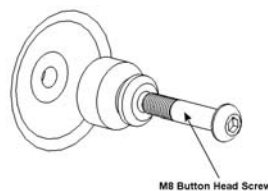
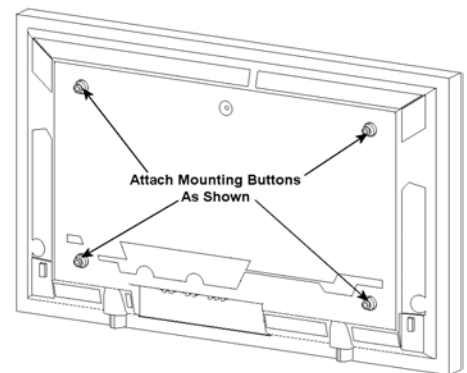

Figure 3
Figure 4
2. Attach mounting buttons to display using the M8 bolts. Tighten using the included Allen key (see Figure 3 and Figure 4).